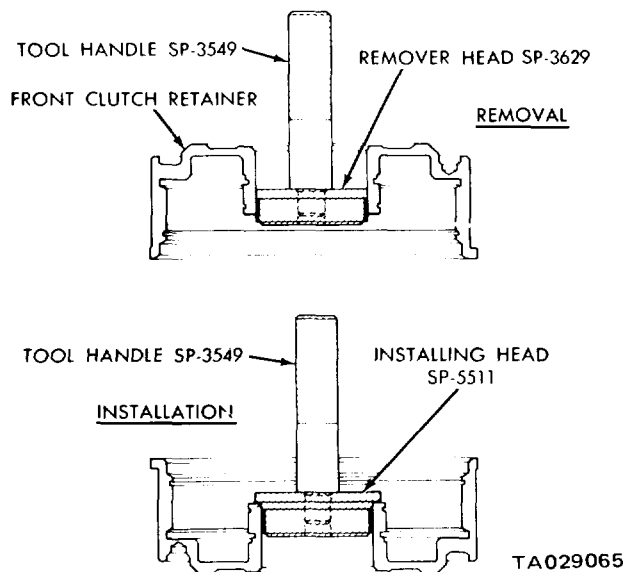

Figure 18-14. Replacing Front Clutch Retainer Bushing.
(1) Lay the clutch retainer (open end down) on a clean, smooth surface and place removing head tool SP-3629 in the bushing. Install handle tool C-4171 in the removing head (figure 18-14).
(2) Drive the bushing out of the clutch retainer bore. Be careful not to cock the tool in the bore.